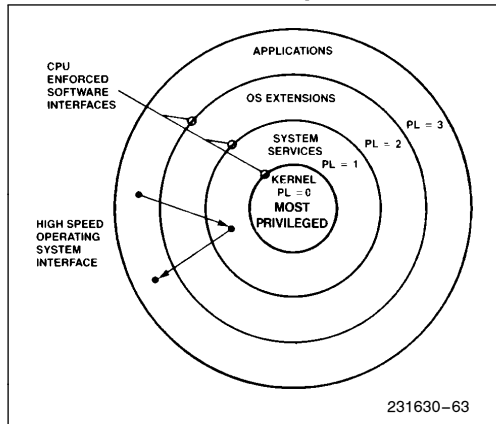

Figure 4-14. Four-Level Hierarchical Protection
The four-level hierarchical privilege system is illustrated in Figure 4-14. It is an extension of the user/supervisor privilege mode commonly used by minicomputers and, in fact, the user/supervisor mode is fully supported by the Intel386 DX paging mechanism. The privilege levels (PL) are numbered 0 through 3. Level 0 is the most privileged or trusted level.